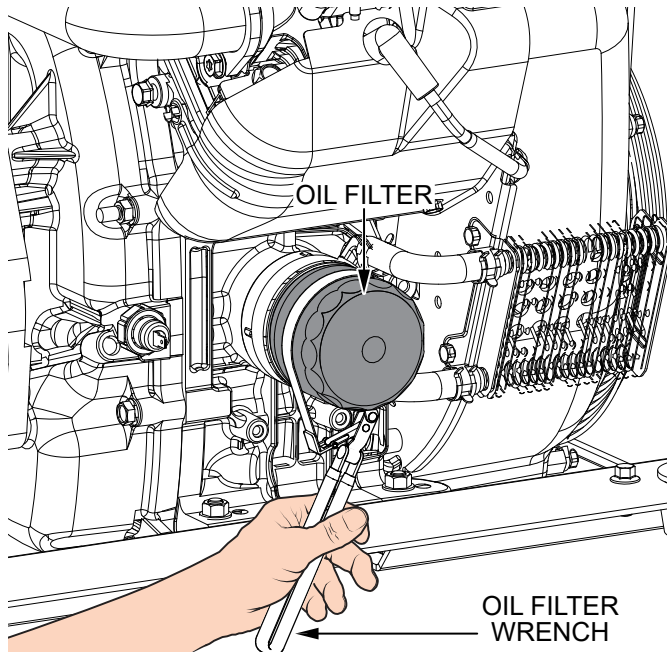

Figure 32. Oil Filter Removal
- Using a **filter wrench** (Figure 32), remove the **engine oil filter**.